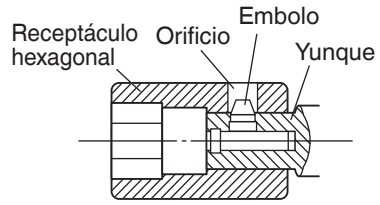

Fig. 3
(1) WR22SE: Tipo émbolo (Fig. 3)